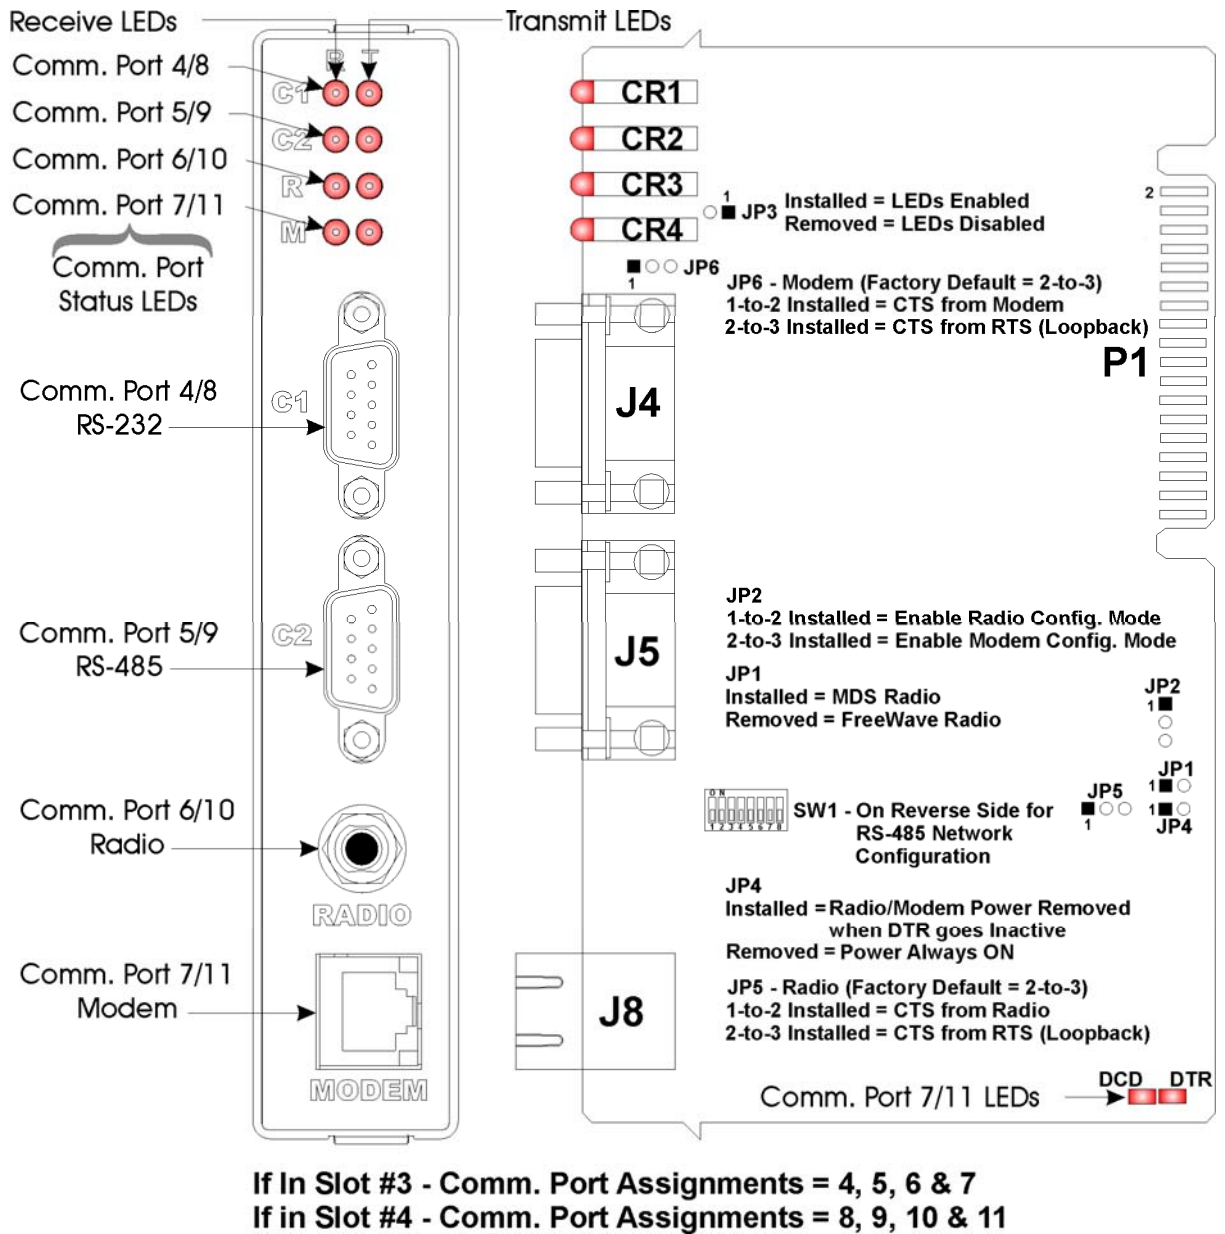

Figure D1 – Expansion Comm. Module Component Identification Diagram
1. Remove the Expansion Comm. Module from the unit in question (see Figure D1).
1. If required, remove the Exp. Comm. Module from the unit in question (see Figure. D1).
1. If required, remove the Exp. Comm. Module from the unit in question (see Figure D1).